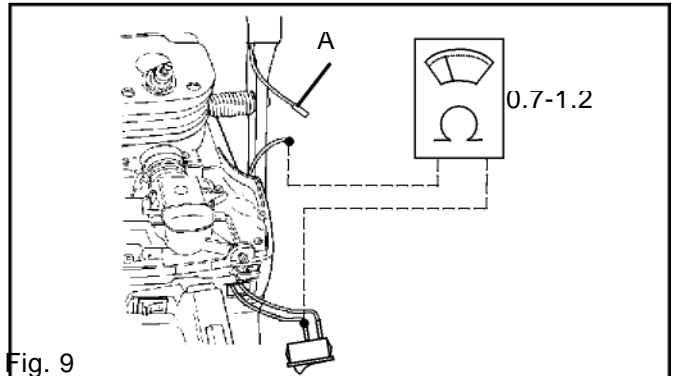

Fig. 9
1. Remove the cylinder cover and disconnect the connector on the red lead at A. See fig. 9.
4. Connect the ohmmeter as shown in fig. 9 and measure the resistance in the rear hand grip heating element. The meter should read 0.7 - 1.2 .